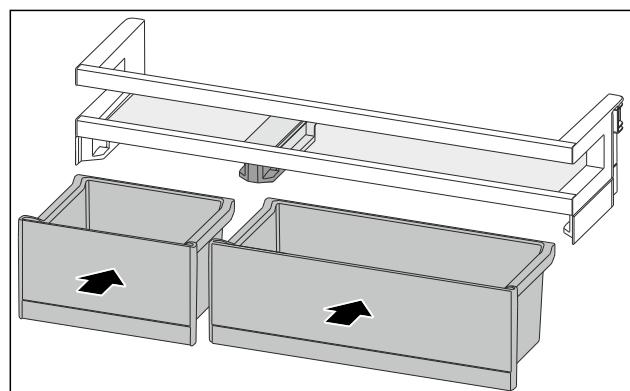

Fig. 89
- Insert the VarioBoxes in reverse order. (see Fig. 89)